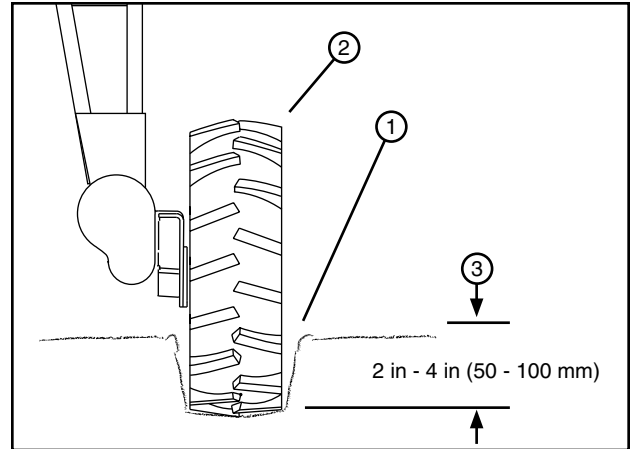

Figure 31-1 1. Wheel track
- Wheel track depths must not exceed 6 in (152 mm). See figure 31-1.